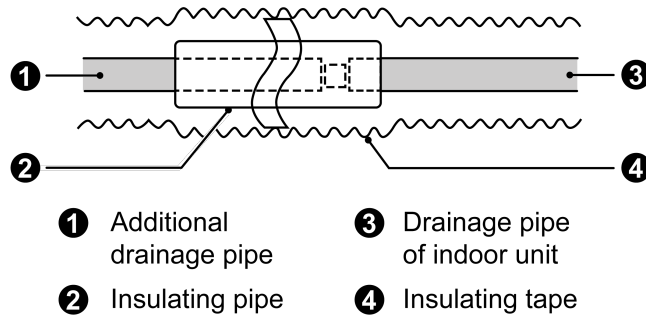

Fig.4.3.1
- (1) It is not allowed to connect the condensate drain pipe into waste pipe or other pipelines which are likely to produce corrosive or peculiar smell to prevent the smell from entering indoors or corrupt the unit.
- (2) It is not allowed to connect the condensate drain pipe into rain pipe to prevent rain water from pouring in and cause property loss or personal injury.
- (3) Condensate drain pipe should be connected into special drain system for air conditioner.
- (4) The drainage pipe should be short and the gradient downwards should be at least 1%~2% in order to drain condensation water smoothly.
- (5) The diameter of drainage hose should be bigger or equal to the diameter of drainage pipe joint.
- (6) Install drainage pipe according to the following Fig.4.3.1. and arrange insulation to the drainage pipe. Improper installation may lead to water leakage and damp the furniture and other things in the room.
- (7) You can buy normal hard PVC pipe used as the drainage pipe. During connection, insert the end of PVC pipe into the drainage hole and then tighten it with drainage hole and wire binder. Can't connect the drainage hole and drainage hole with glue.
- (8) When the drainage pipelines are used for several units, the position of pipeline should be about 100mm (4 inch) lower than the drainage port of each unit. In this case, thicker pipes should be applied.